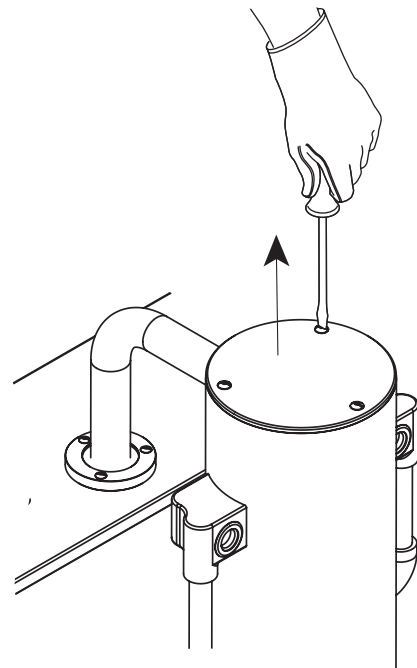

figure 23
- Use a screwdriver to undo the motor cover screws (fig. 23)